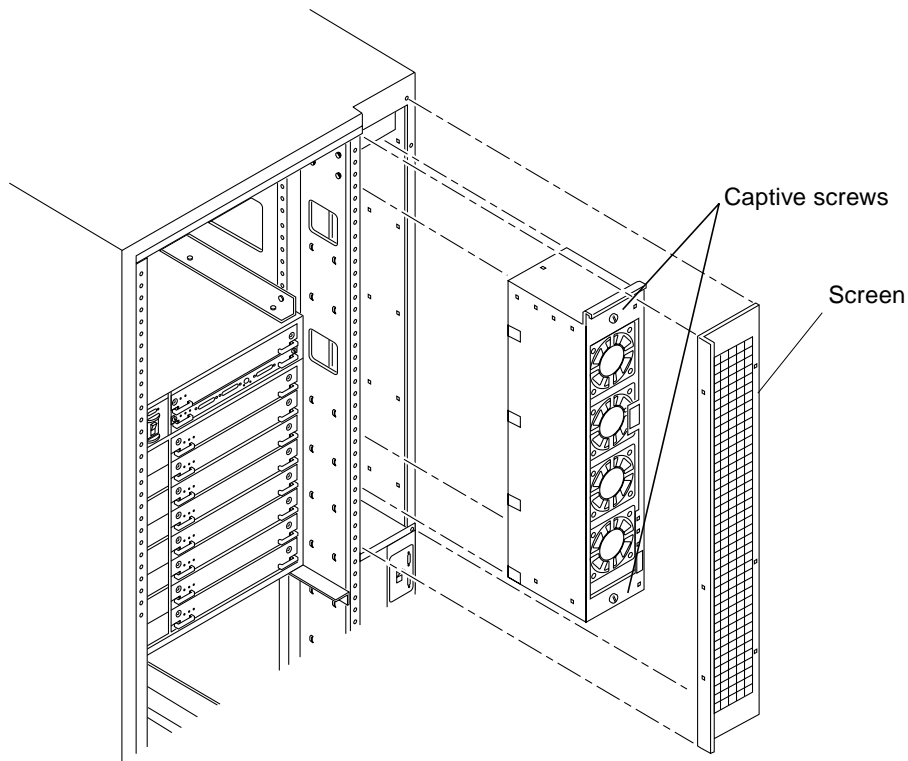

FIGURE E-1 Replacing the Fan Tray Assembly in the Enterprise 6500/5500 Systems
You must remove the fan tray screen (FIGURE E-1) to reach the assembly.
2. **Loosen the two captive screws on the fan tray assembly (FIGURE E-1).**
3. **Tighten the two captive screws at the top and bottom of the fan tray (FIGURE E-1).**